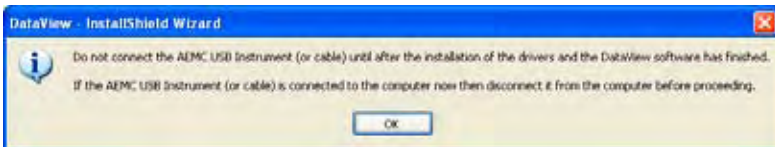

Figure 5-3
9. If the instrument selected for installation requires the use of a USB port, a warning box will appear, similar to Figure 5-3. Click **OK**.